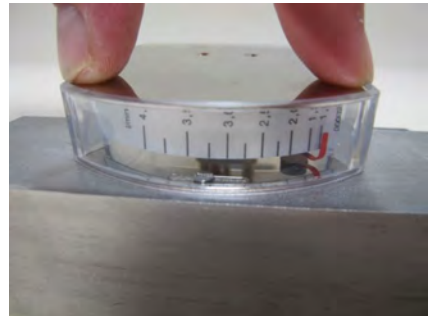

Fig. 65
24. ▶ Fit the display cover plate onto the plastic housing and carefully press down (Fig. 65) until it snaps into place.